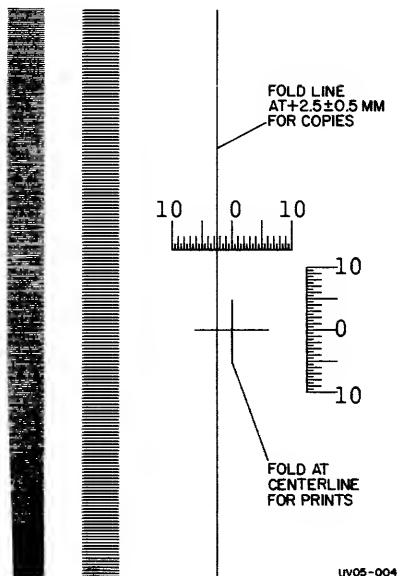

Figure 3-33. Side-to-Side Registration Spec
4. MEASURE THE DISTANCE FROM THE COPY CENTER REFERENCE LINE TO THE FOLD (Figure 3-33).
4. ADJUST THE DOCUMENT EDGE GUIDE TO LOCATE THE FOLD AT THE +2.5 MM MARK OF THE COPY ± 0.5 MM (Fig. 3-33).